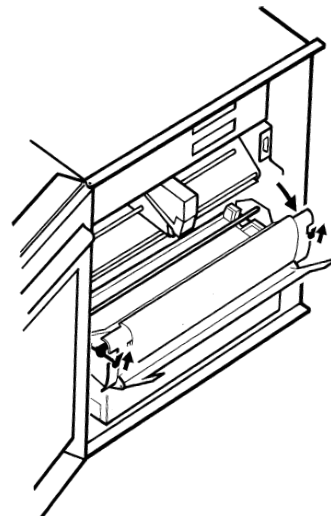

Figure 1.7.2a Paper tray access
* To free the paper, it may occasionally be necessary to release the platen, by lifting the latches as shown in figure 1.7.2a.